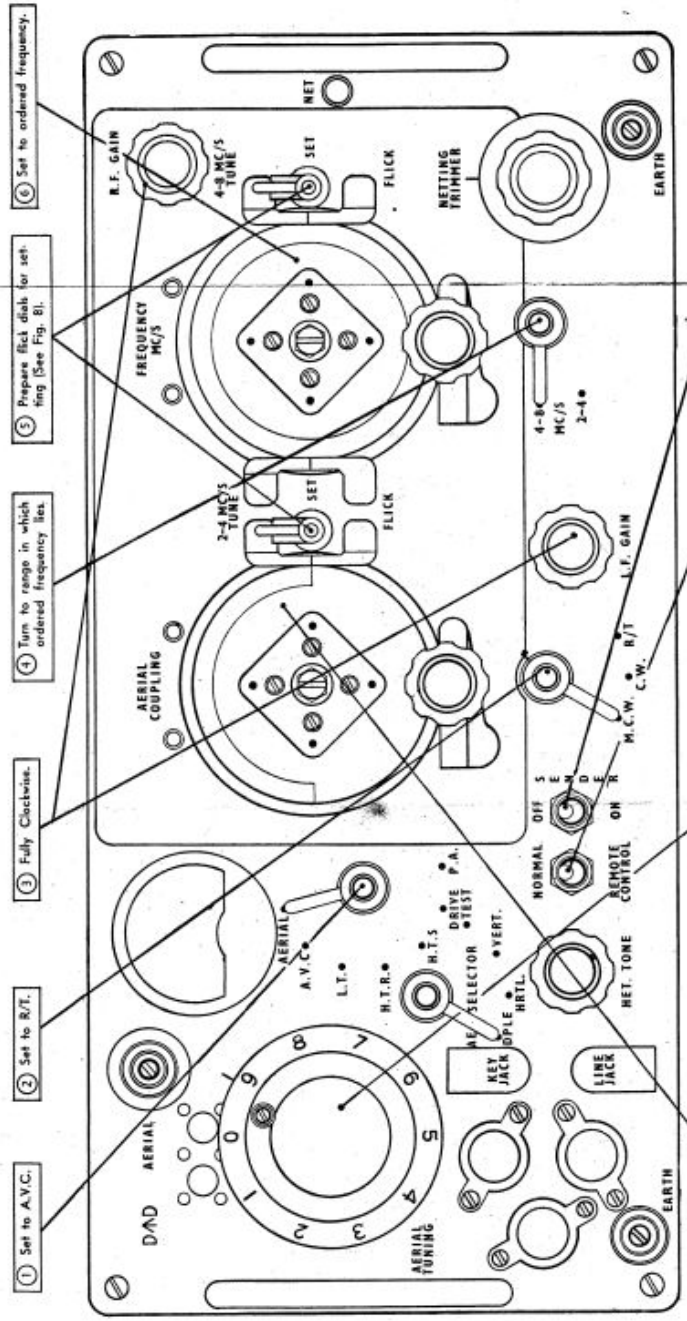

Fig. 9
- (i) Prepare the set for netting as shown in Fig. 9.
- (i) Prepare the set for netting (as shown in Fig. 9), setting "FREQUENCY MC/S" dial as accurately as possible to the ordered frequency, making allowance for any known inaccuracy of this control.
- (b) Prior to the time ordered for netting all OUT STATIONS will prepare their sets for netting as shown in Fig. 9, and shall carry out the following operations while netting :—
- (a) Prepare net for netting (see Fig. 9), on BLUE FREQUENCY.